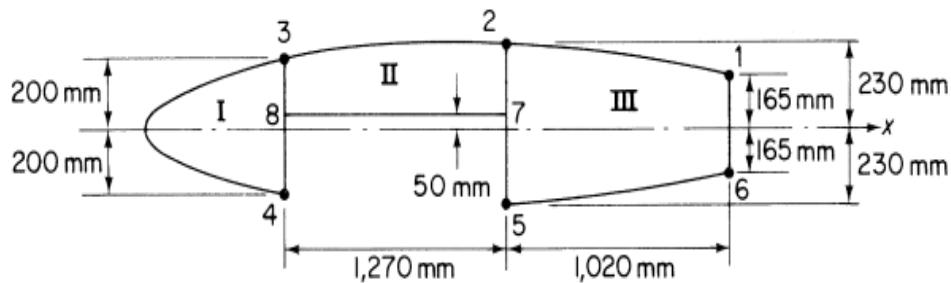

Fig.7
b) The wing section shown in Fig.7 has been idealized such that the booms carry all the direct stresses. If the wing section is subjected to a bending moment of 300 kNm applied in a vertical plane, calculate the direct stresses in the booms: